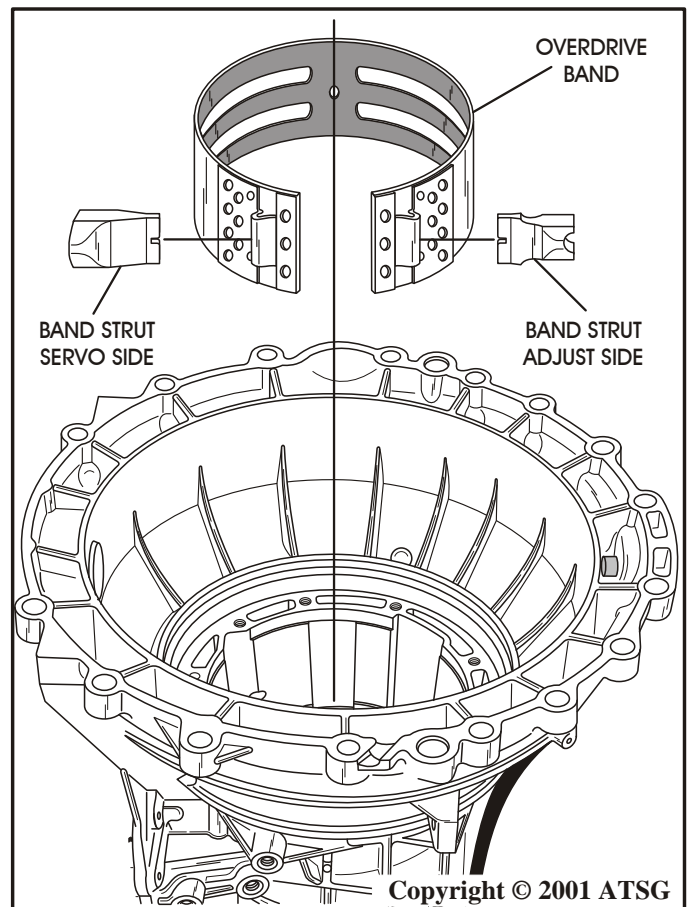

Figure 40
39. Remove the overdrive band assembly and both band struts, as shown in Figure 40.
Note: Notice the difference in the band struts and which side they are located, as shown in Figure 40.